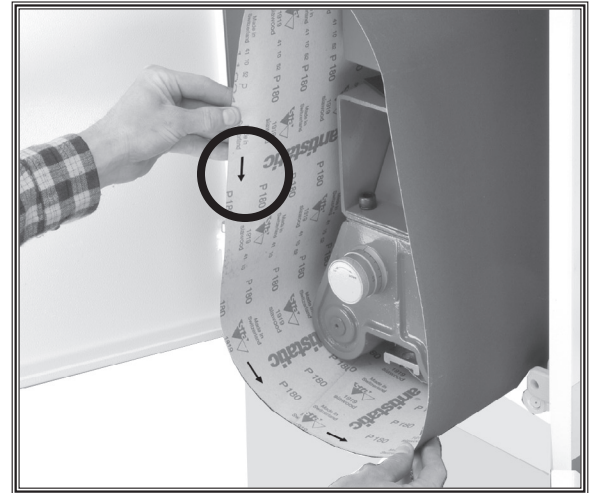

Figure 8. Installing sanding belt over rollers. The arrows on the inside must point in the same direction as belt rotation.
5. Install the sanding belt as shown in **Figure 8**, and center it on the rollers and in between the ceramic limit switch levers.